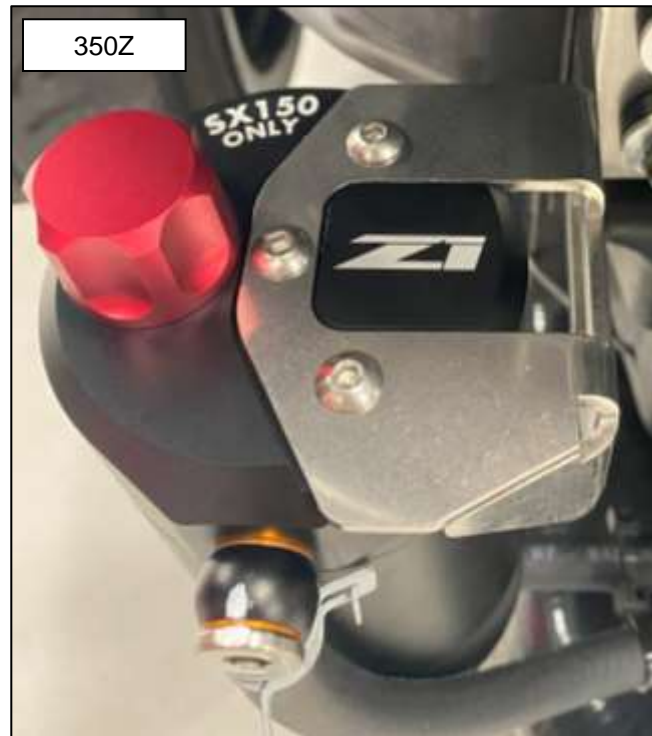

Figure 51
2. Secure the assembled Z1 Oil Reservoir to the Oil Reservoir Bracket (#75 or #86) with the (3) three provided M5 x 8mm Button Head Screws (#19) and a 3mm Allen/Hex bit. *Figure 51.*